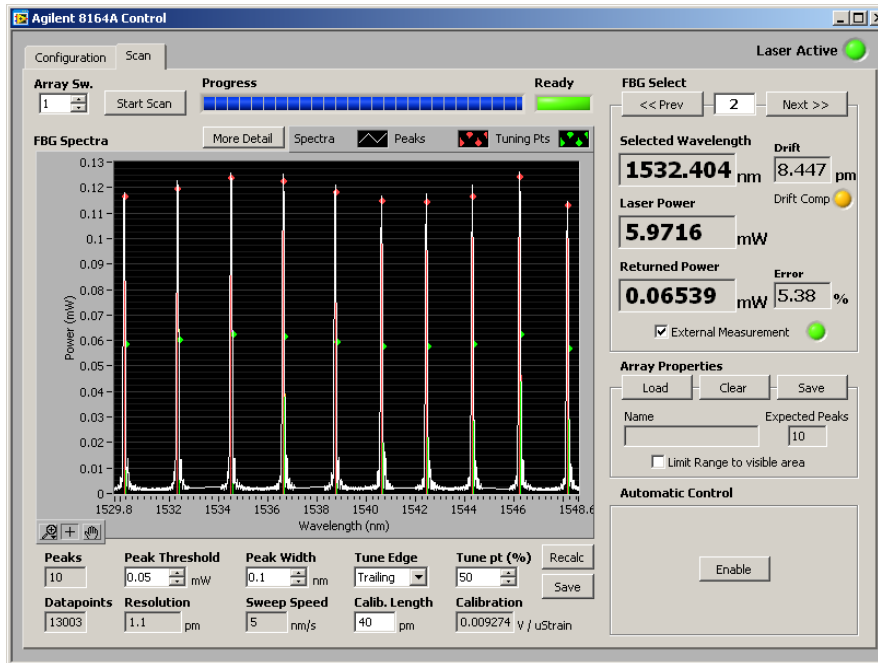

Figure 2.12.1: Scan window on Agilent 8164A control software
1. Click the Scan tab (Figure 2.12.1)
4. Peaks are indicated by a red dot on the array plot and the number of peaks detected is indicated at the peaks display on Figure 2.12.1. If all peaks are detected skip to step 8
4. Once saved, progress to the next FBG in the array by selecting next on the **FBG Select** input at the top right hand side of the Agilent 8164A scan window as shown in Figure 2.12.1. Repeat steps 1 to 4 in section 2.13 until all the sensors on the array have been measured.